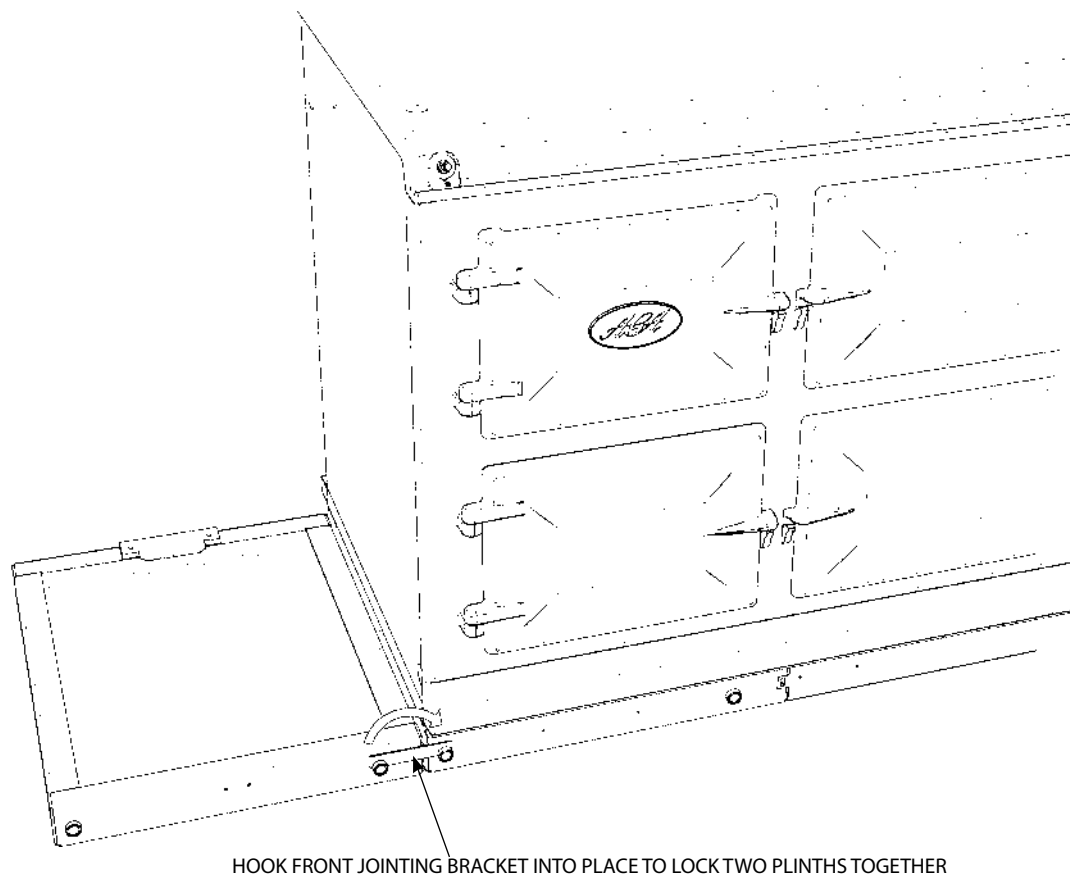

Fig. 30.6
5. Front jointing bracket can now be hooked into place over the two pot magnets. This will latch the two plinths together. (**Fig. 30.6**)